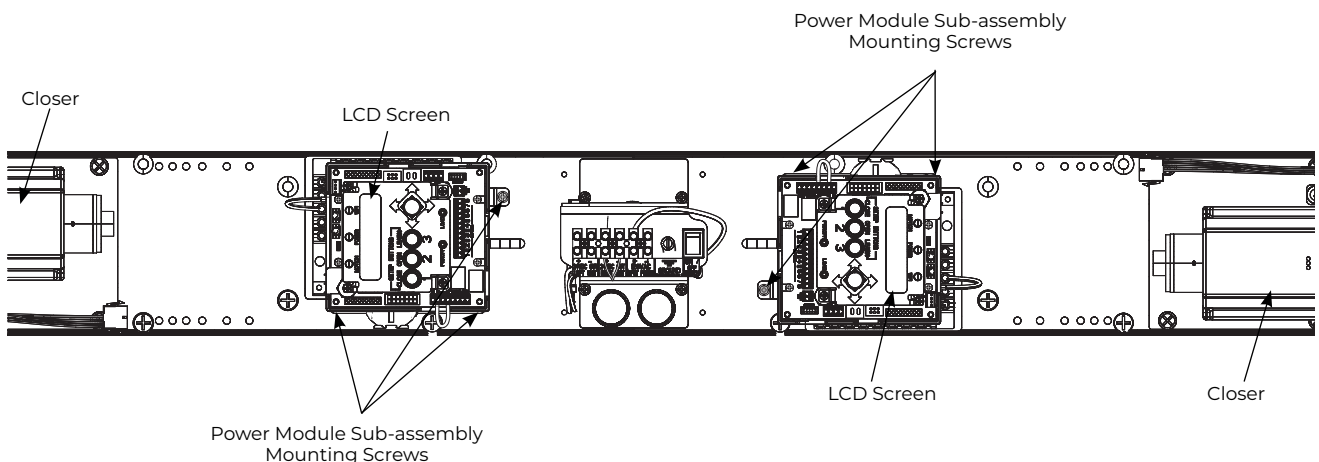

Figure 15 Wiring Removed From View
1. Using three (3) #8-32 x 5/16" Phillips screws per assembly, secure power module sub-assemblies to backplate at location marked on backplates. (Figure 15)
**NOTE:** Orient assemblies so LCD screens on inverters are toward corresponding closer assemblies. (Figure 15)